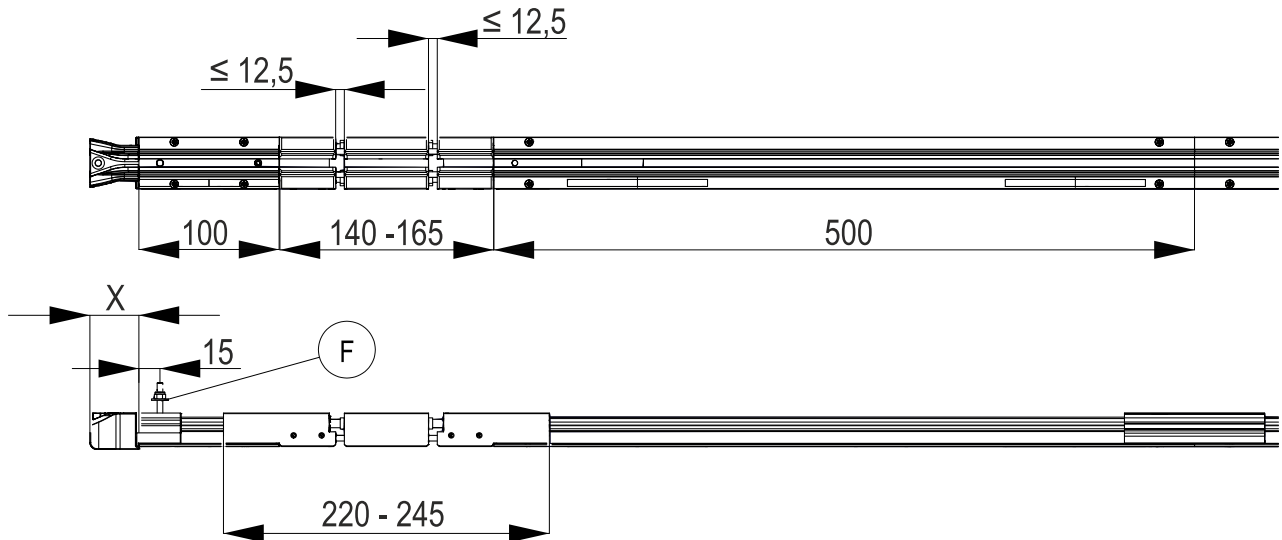

Fig. 68: Dimensions of expansion unit – end feed (mounted on left), F = anchor point at Position A
A through hole ( $D = 4.5 \text{ mm}$ ) must be drilled through the support structure for the anchor point screw (6). The position of the through hole can be taken from Fig. 68 and Fig. 69. Mount the nut of the anchor point screw (6) with a tightening torque of  $3.0 \text{ Nm}$ .